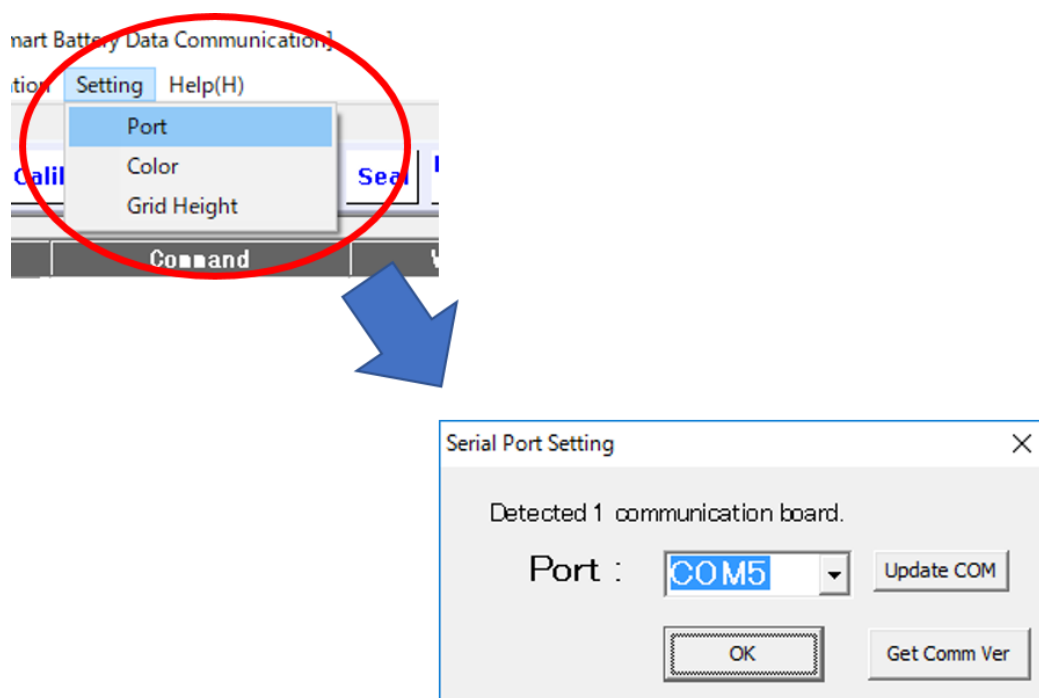

Figure 1 Port Setting
2. Select the desired Port address (example in Figure 1 shows COM5)